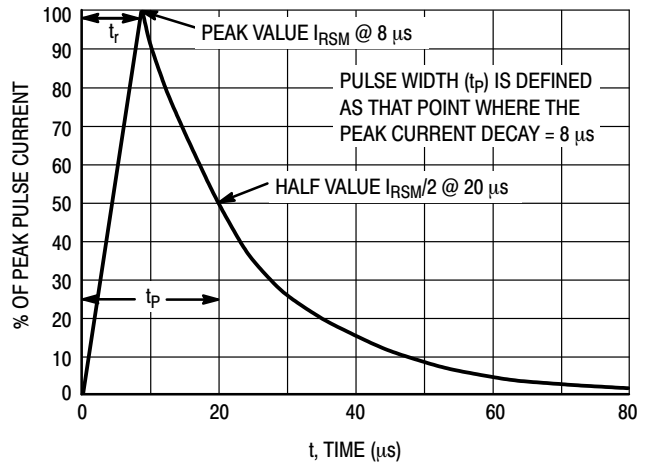
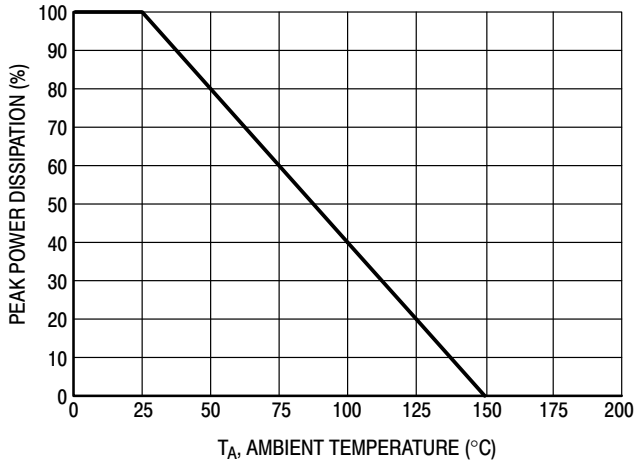

Figure 2. Pulse Waveform  $8 \times 20 \mu\text{s}$
Figure 3. Power Derating Curve
1. Non-repetitive current per Figure 2. Derate per Figure 3.